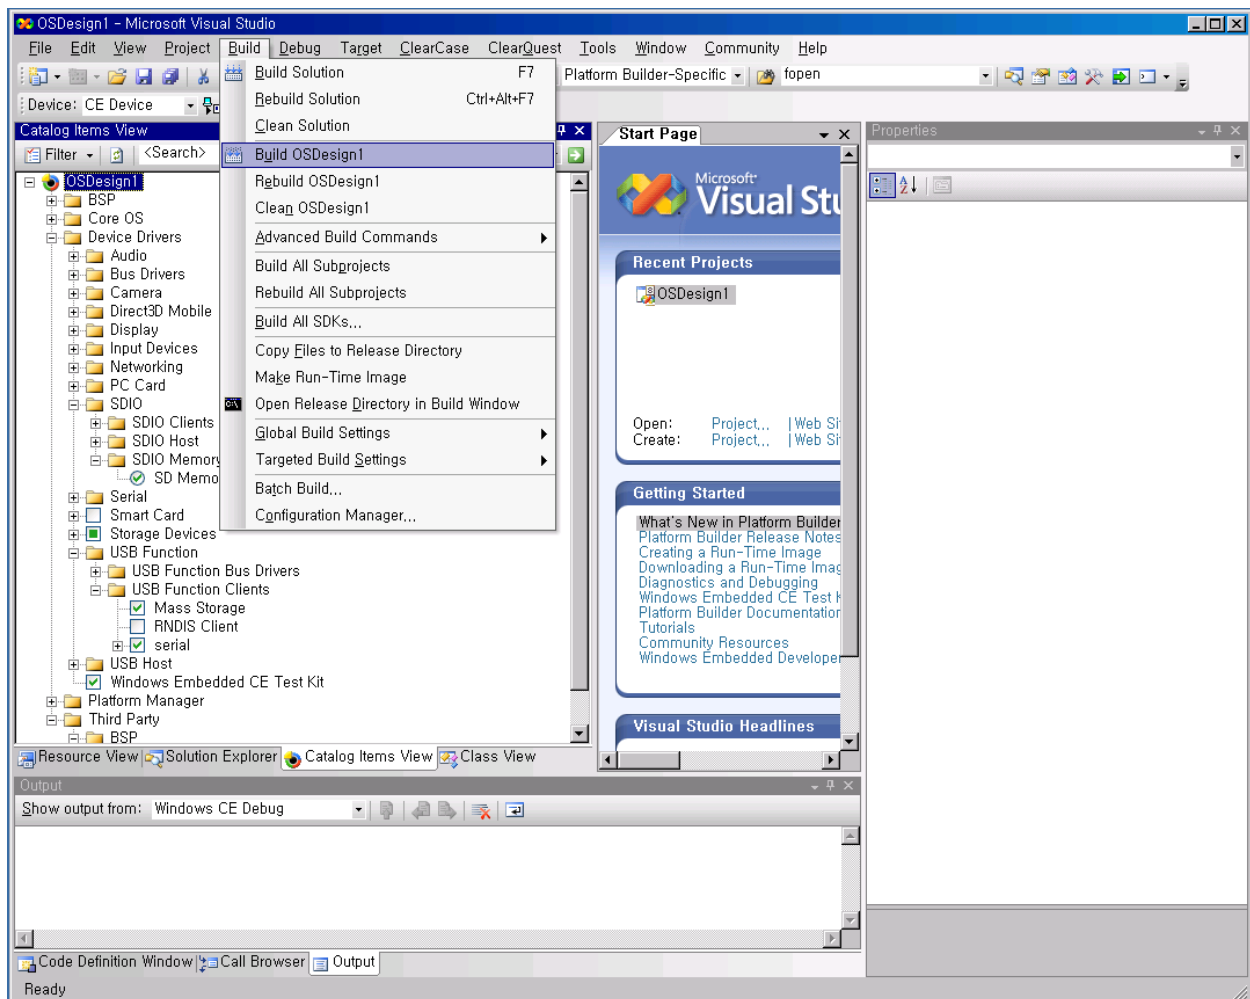

Figure 7-14 Build OSDesign
2. On the **Build** menu, click **Build OSDesign1** as shown in figure 7-14 to build the Eboot and OS image.